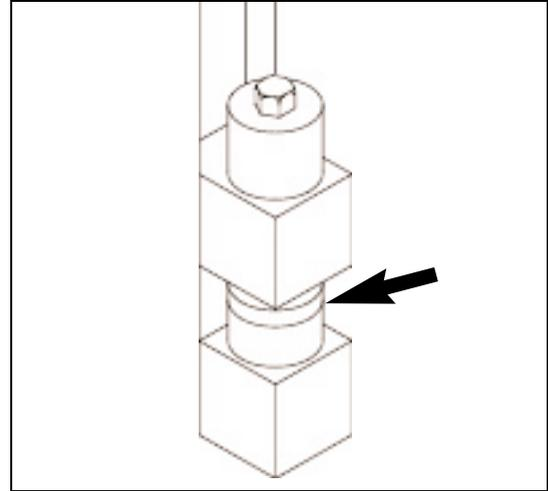

Figure 4.26 2 1/4" [57mm] OF SPACERS.
e. Store spacers on bottom side of bolt for front bolts and left hand rear bolt. For right hand rear bolt store spacers on top. Tighten bolts at all 4 corners that secure mold throat plate spacers (see figure 4.26).